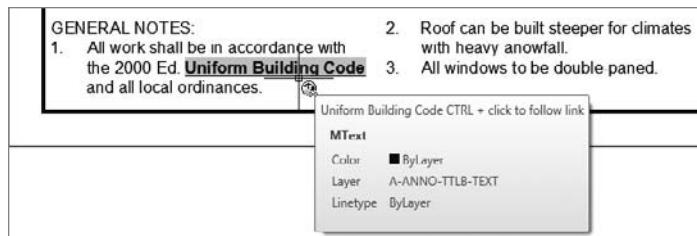

FIGURE 8.66 Selecting a hyperlink embedded in Mtext
7. Hold the Ctrl key down, and hover the cursor over the gray background (see Figure 8.66).